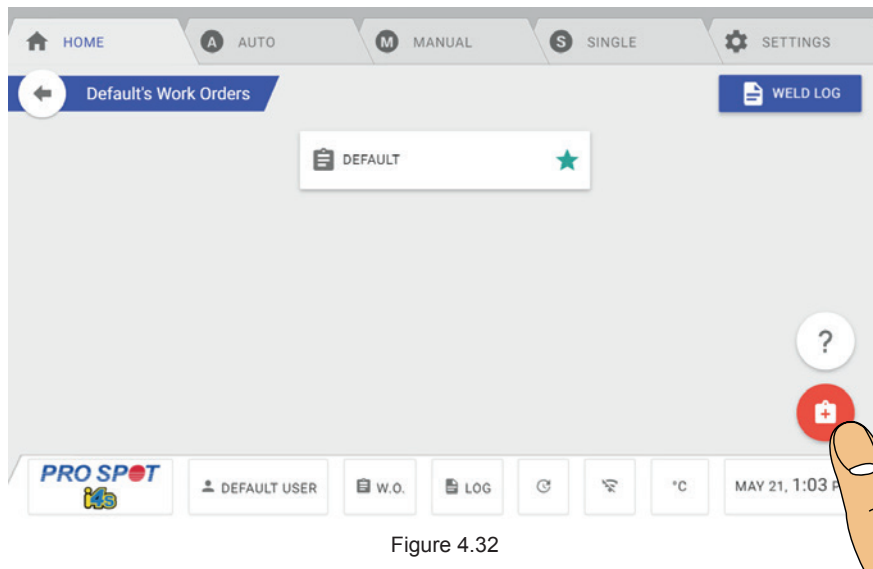

Figure 4.32
4. To select the option to allow users to add work orders, toggle the button to the right (it will turn green) and press the Save Button (Figure 4.32). To turn off the option, toggle the button to the left.
5. Now when users access the Work Orders Menu they will also have the option to add work orders. You can see if this feature is activated by the red Create Work Order Button located on the bottom-right. (Figure 4.32).